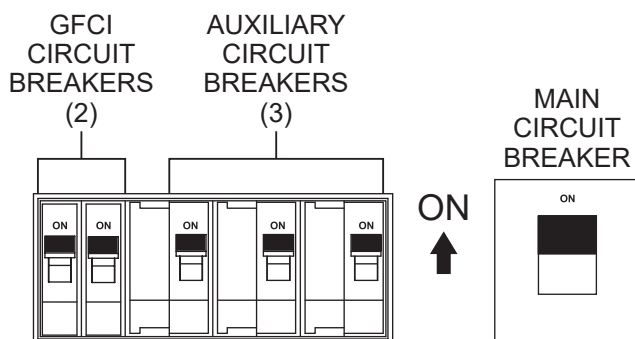

Figure 57. Main, Auxiliary, And GFCI Circuit Breakers (ON)
12. Place the **main, auxiliary, and GFCI** circuit breakers in the **ON** position (Figure 57).